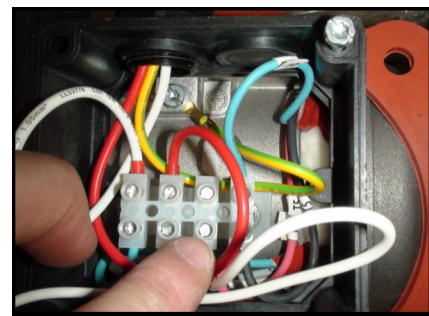

Fig. 3.9
The white wire connects to (L), the red wire connects to (N), and the ground wire connects to the fan’s grounding screw (**Fig. 3.9**).